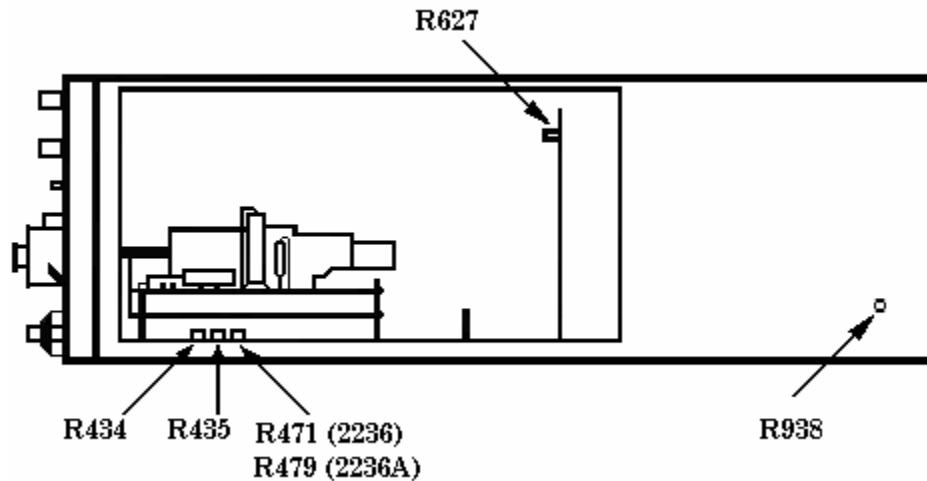

Figure 2. Adjustments – right side view.
- (9) Disconnect digital multimeter.
- (10) Position TI switches as listed in (a) through (e) below:
- (11) Connect oscilloscope calibrator **SOURCE/MEASURE CHAN 1** to TI **CH 1** using 50Ω feed through termination.
- (12) Set oscilloscope calibrator for a **SOURCE/MEASURE CHAN 1, LEVEL SINE** output of **50 kHz** and 2.2 divisions of vertical display on TI.
- (13) Set TI **CH 1 VOLTS/DIV** switch to **1**.
- (14) Adjust R471 (2236) (fig. 2) or R479 (2236A) (fig. 2) while rotating **A TRIGGER LEVEL** control slowly so that **A TRIGGER** is just able to be maintained (R).
- (15) Set TI **CH 1 VOLTS/DIV** switch to **50m** and adjust **A TRIGGER LEVEL** control fully cw.
- (16) Set oscilloscope calibrator **LEVEL SINE** output amplitude for 5 divisions of vertical display on TI.
- (17) Set TI **CH 1 VOLTS/DIV** switch to **.5**.
- (18) Adjust R434 (fig. 2) so display just solidly triggers on positive peak of signal (R).
- (19) Press **TI A TRIGGER SLOPE** pushbutton to **IN:**  and adjust **A TRIGGER LEVEL** control fully ccw.
- (20) Adjust R435 (fig. 2) so display just solidly triggers on negative peak of signal (R).
- (21) Connect oscilloscope calibrator **SOURCE/MEASURE CHAN 1** to one side of a BNC tee. Connect BNC tee to **TI CH 1** using a X10 attenuator and 50Ω feedthrough termination. Connect remaining side of BNC tee to **TI EXT INPUT**.
- (22) Set **TI CH 1 VOLTS/DIV** switch to **10m** and **A TRIGGER A SOURCE** switch to **EXT**.
- (23) Set oscilloscope calibrator for a **LEVEL SINE** output of **50 kHz** and 2.2 divisions of vertical display on TI.
- (24) Adjust **TI A TRIGGER LEVEL** control for a stable display.
- (25) Set **TI HORIZONTAL MODE A ALT B** switch to **B** and adjust **B TRIGGER LEVEL** control for a stable display.
- (26) Set **TI CH 1 VOLTS/DIV** switch to **.1**.
- (27) Adjust R627 (fig. 2) so that a display can be maintained by adjusting **B TRIGGER LEVEL** control (R).